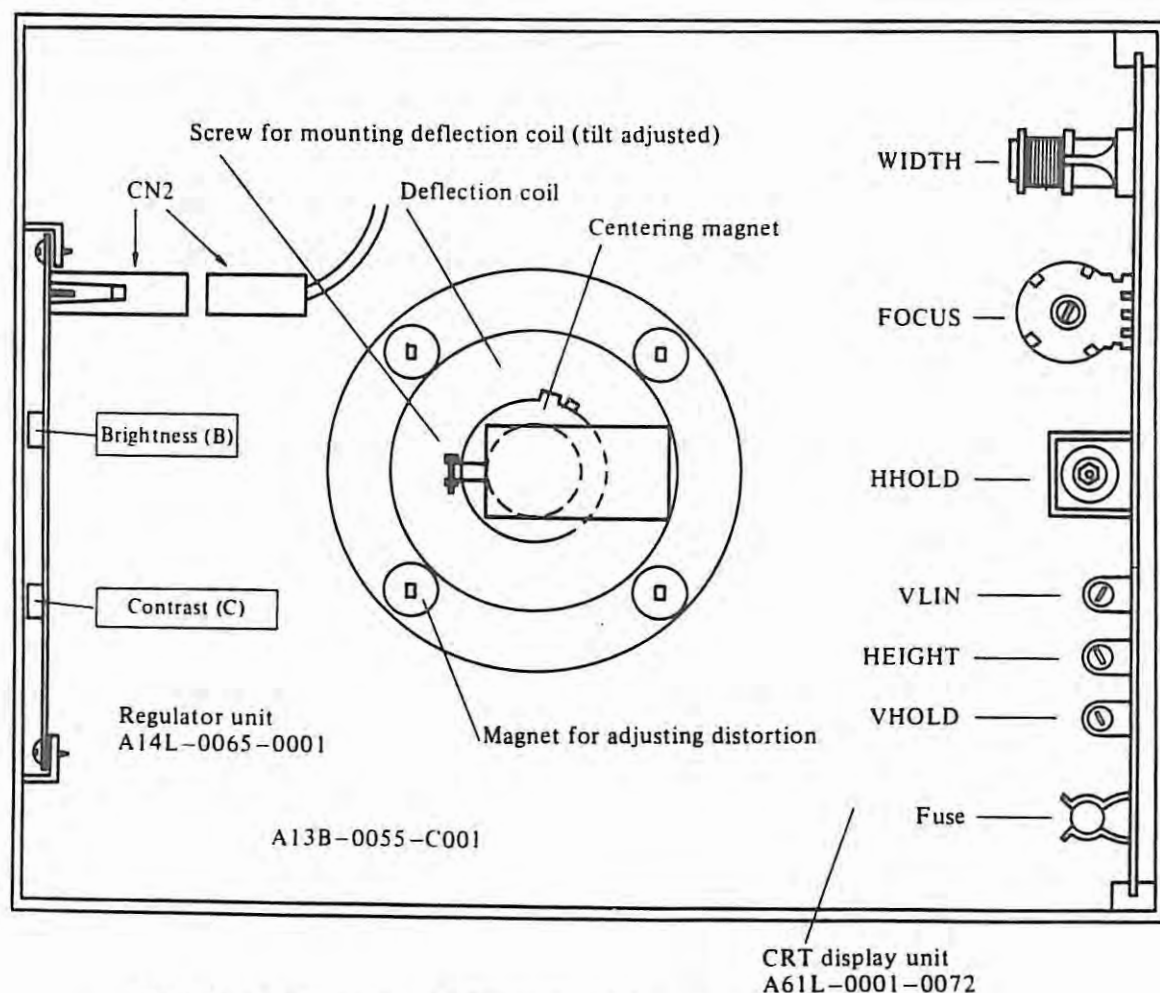

Fig. 1. 1 Adjustment point (when as viewed from rear of the display unit)
(1) Adjustment
In general, an adjustment of character display is not required. However, for the adjustment of brightness and contrast when required, variable resistors are provided in the side panel of display unit with an indication as shown brightness (B) and contrast (C). Perform the adjustment of these two resistors. (Refer to Fig. 1. 1)